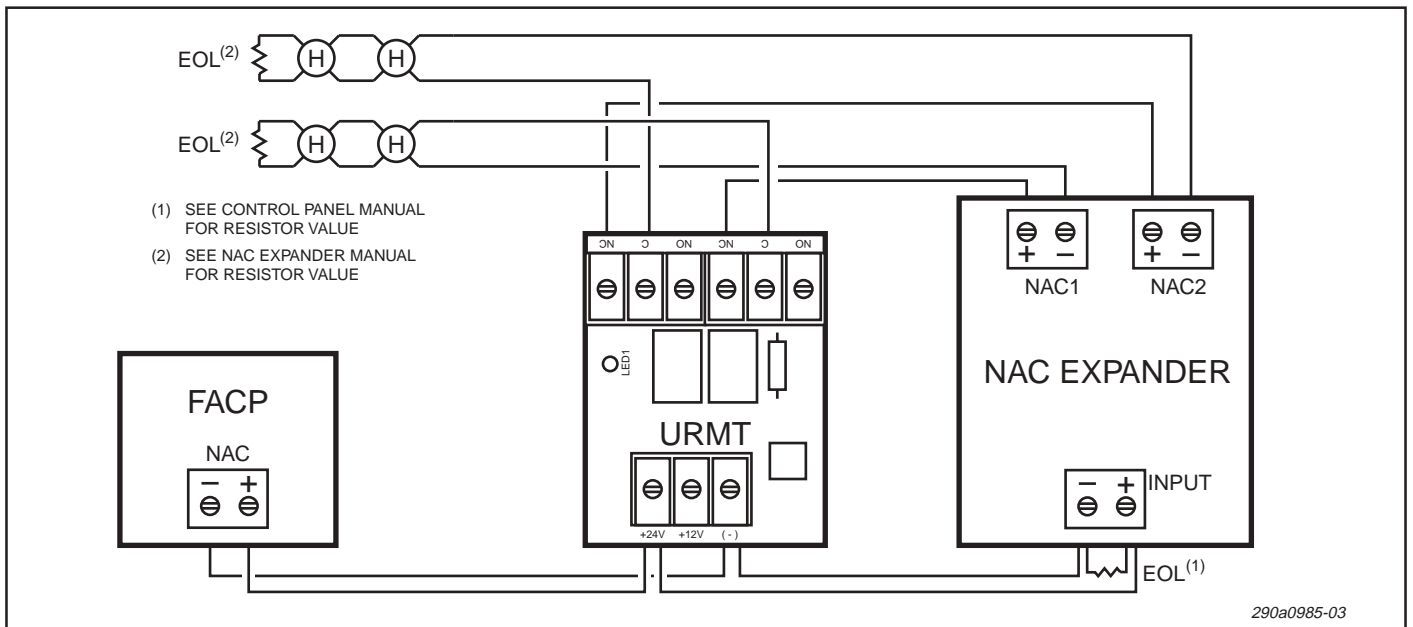

Figure 4. Dual Circuit Style Y NAC using URMT-2 and Power Booster.
2. See Figure 4 for typical system wiring when one or more Listed NAC expanders for Fire-Protective Signaling systems are required.